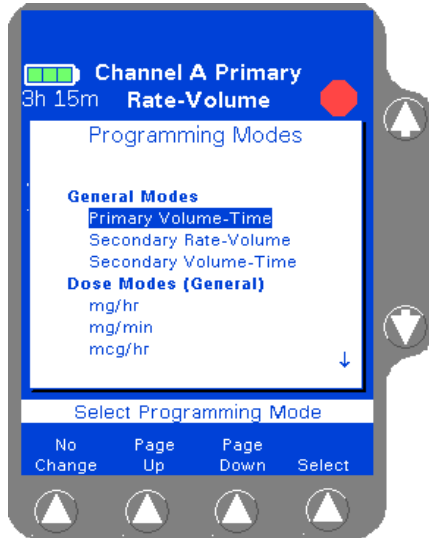

Figure 4-91 Programming Modes Menu
2. Press the **Change Mode** soft key. The Programming Modes menu is displayed (Figure 4-91).